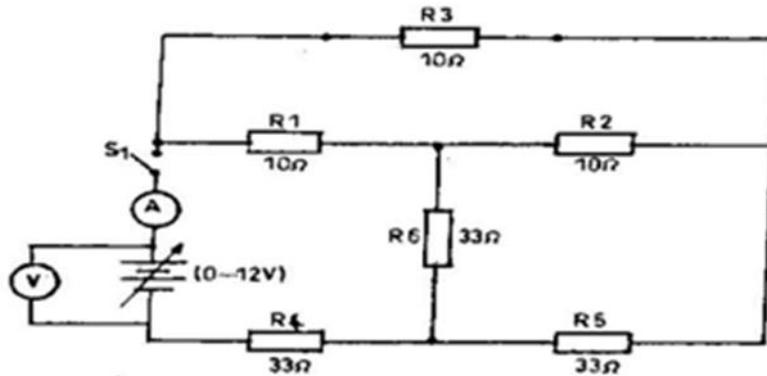

Figure 1
- Connect the circuit diagram as shown in figure 1.